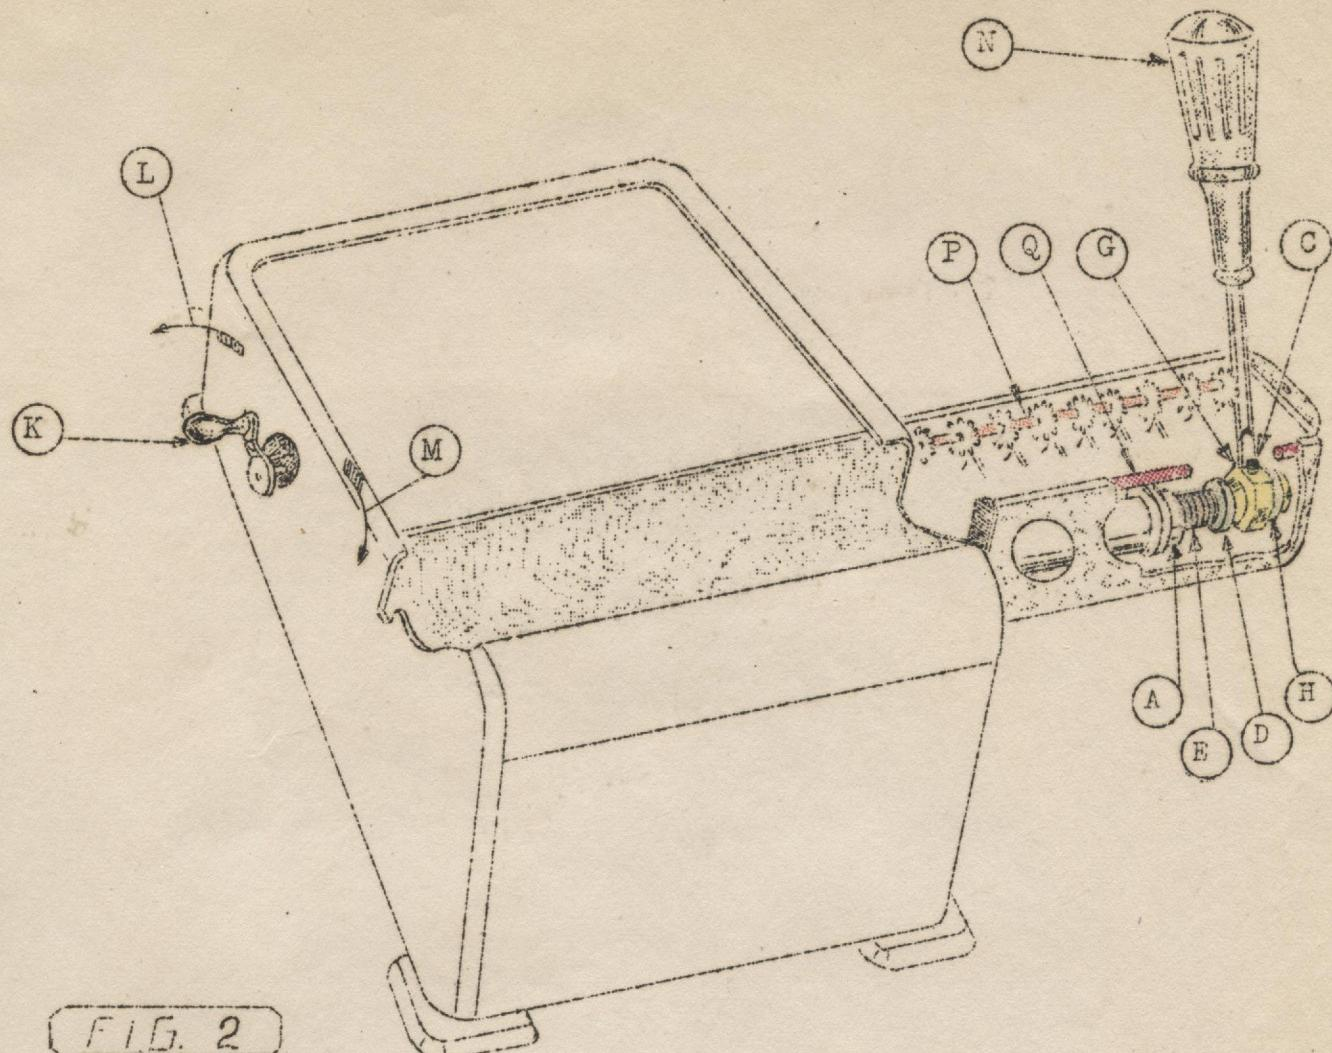

FIG. 2
With the unit assembled to the machine, remove unit cover, insert a small screw driver (N) as shown in figure 2, and loosen set screw (C). Holding the screw driver in position resting against shaft (P) and in front of set screw (C), turn the machine crank (K) in the direction of arrow (L) until the desired friction is obtained. Tighten set screw (C) securely.